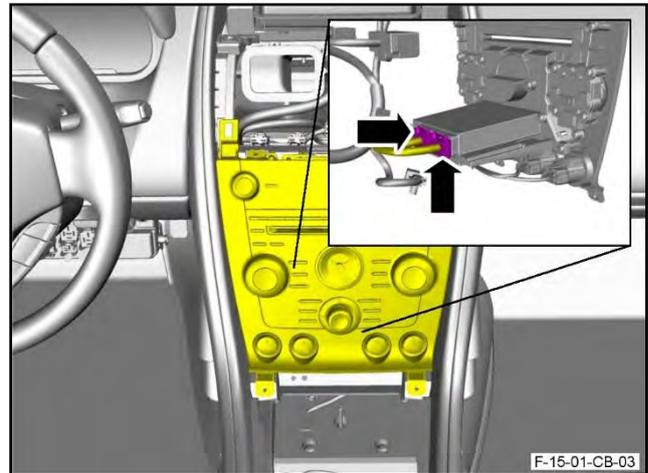

Figure 22
30. Disconnect the two electrical connectors from the HVAC control module (refer to Figure 22).